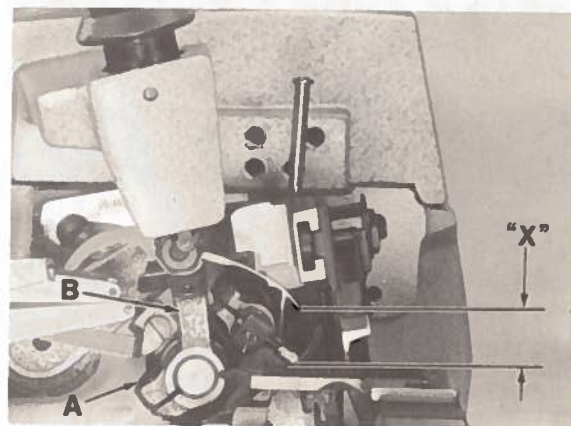

Fig. 6
If adjustment is required, remove fabric guard and looper thread pull-off. Loosen needle driving arm clamp screw (A, Fig. 6) and reposition arm to the right or left as necessary. Temporarily tighten clamp screw, (A), then proceed to check needle(s) height.
With needle driving arm at highest position, the tip of needle(s) should be "X" dimension from top of throat plate as shown in Fig. 6. See chart below.
If adjustment is required, loosen clamp screw (A, Fig. 6) and reposition arm (B) forward or rearward as required to obtain "X" dimension being careful not to disturb "NEEDLE ALIGNMENT". Tighten clamp screw (A) and replace looper thread pull-off.